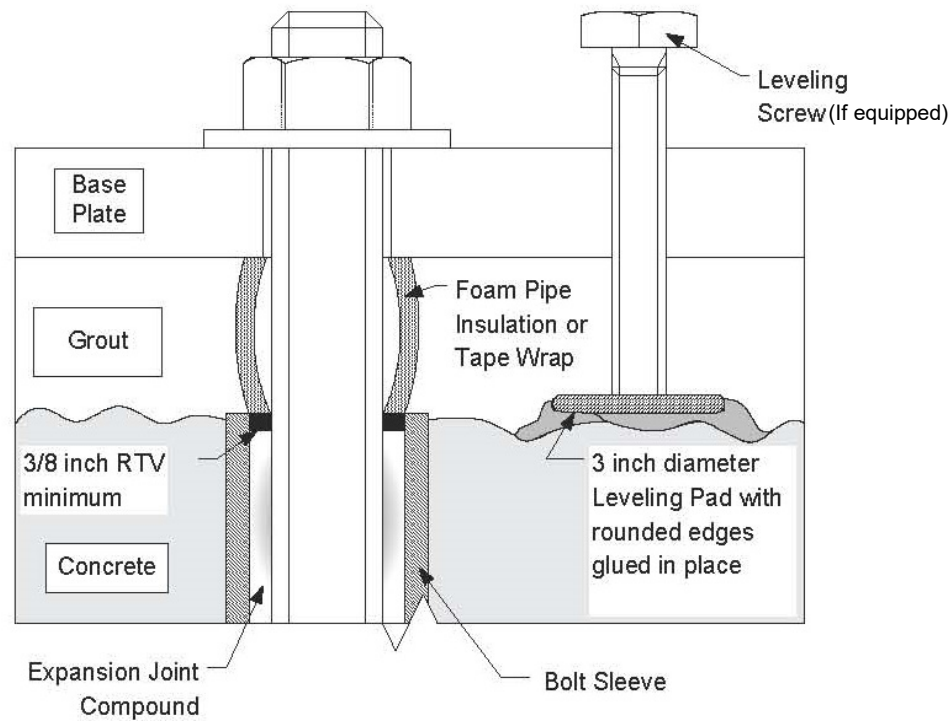
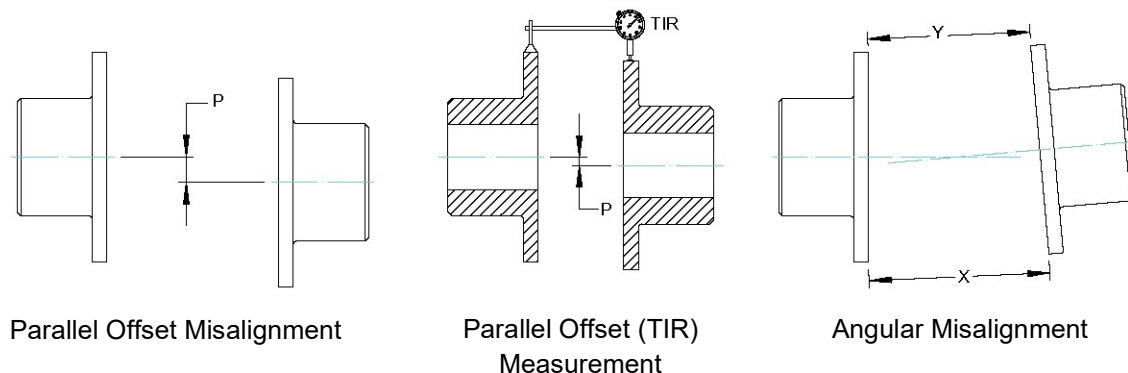

Figure 7. Grouting and Foundation Bolting
Figure 9. Coupling Alignment
rigid support for the base plate. Consequently, maintaining the pump to driver alignment is important for a flexible coupled unit, refer to Figure 9. A concrete foundation on a solid base is recommended. Use foundation bolts of the proper size embedded into the concrete. A pipe sleeve larger in diameter than the bolt should be used. This allows movement for final positioning of the bolts; refer to Figure 7, Grouting and Foundation Bolting.
The base should be supported on either rectangular metal blocks with shims or on metal wedges having a small taper. The support pieces should be placed close to the foundation bolts, refer to Figure 7, Grouting and Foundation Bolting. Place supports directly under the part of the base, which carries the greatest weight. Space the supports closely enough to provide uniform support of the base. Adjust the metal supports or wedges until the shaft is level. Check suction and discharge flanges of the pump by means of a level. Make corrections, as necessary, by adjusting the supports or wedges under the base.
2. The "Parallel Misalignment" value (P) is the offset between the centers of the hubs, as shown in Figure 9.
3. When the Parallel Offset is measured by rotating the hubs in unison with dial indicators as shown in Figure 9, the Total Indicator Reading (TIR) should be divided by (2) to calculate (P).
5. The "Angular Misalignment" value is the maximum difference between the measurements X and Y taken at opposite ends of the hub flanges, as shown in Figure 9.